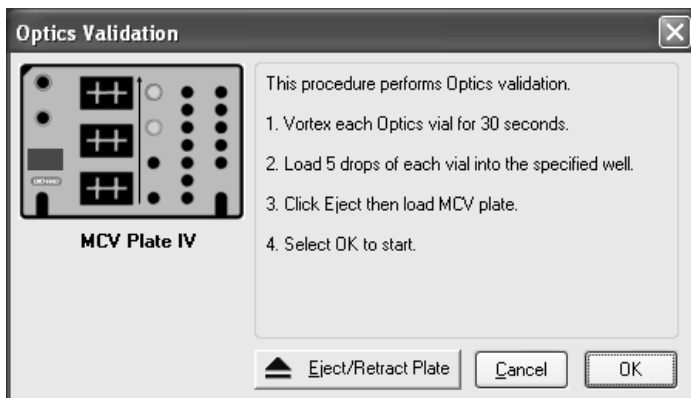

Fig. 4. Optics validation dialog.
6. Enter user name and control number. Select **Optics**. Select **OK**. The following dialog appears (Figure 4):